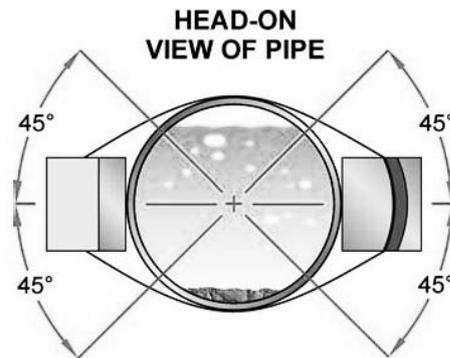

Figure 2.1
The transducers must be properly oriented on the pipe to provide optimum reliability and performance. On horizontal pipes, the transducers should be mounted 180 radial degrees from one another and at least 45 degrees from the top-dead-center and bottom-dead-center of the pipe. See Figure 2.1. Figure 2.1 does not apply to vertically oriented pipes. On vertical pipes the orientation does not apply.
3. Crease the paper at the fold line. Mark the crease. Place a mark on the pipe where one of the transducers will be located. See **Figure 2.1** for acceptable radial orientations. Wrap the template back around the pipe, placing the beginning of the paper and one corner in the location of the mark. Move to the other side of the pipe and mark the pipe at the ends of the crease. Measure from the end of the crease directly across the pipe from the first transducer location) the dimension derived in Step 2, Transducer Spacing. Mark this location on the pipe.